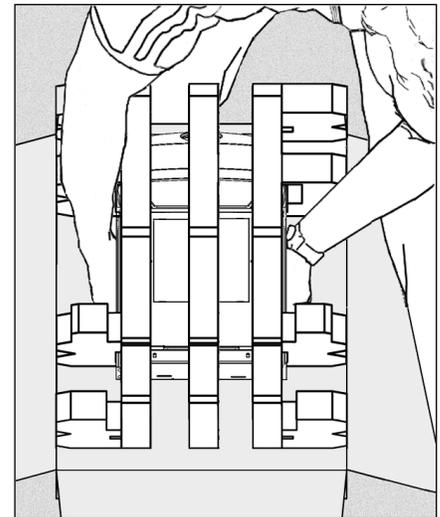

Figure 12
4. Lift the MS2420 scanner out of the box by carefully grasping both sides near the center of the unit and lifting directly up. Refer to Figure 12 for hand placement.